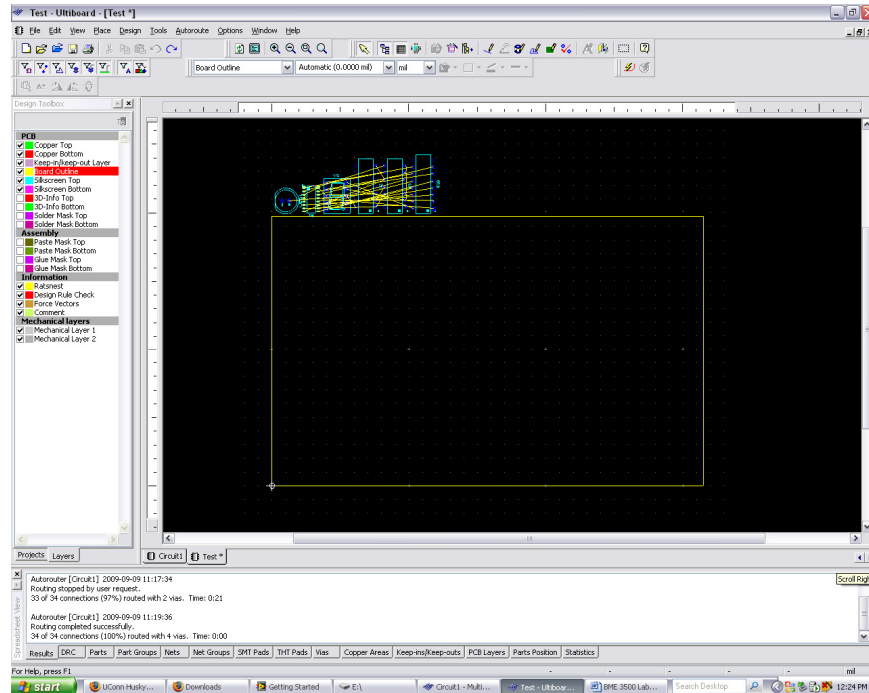

Figure 5. Voltage limiter
- Accept the default trace width and clearance that is given when Ultiboard opens. Make sure that all fields are selected in the Import Netlist Action Selection window and click **OK**. The program should look like Figure 5.
seconds to place traces for the board. Notice that there are green and red lines that appear. The green lines represent copper trace on the top layer of the board and red lines represent copper trace on the bottom layer of the board. Figure 6 shows an example of what the board from Figure 5 looks like after routing.